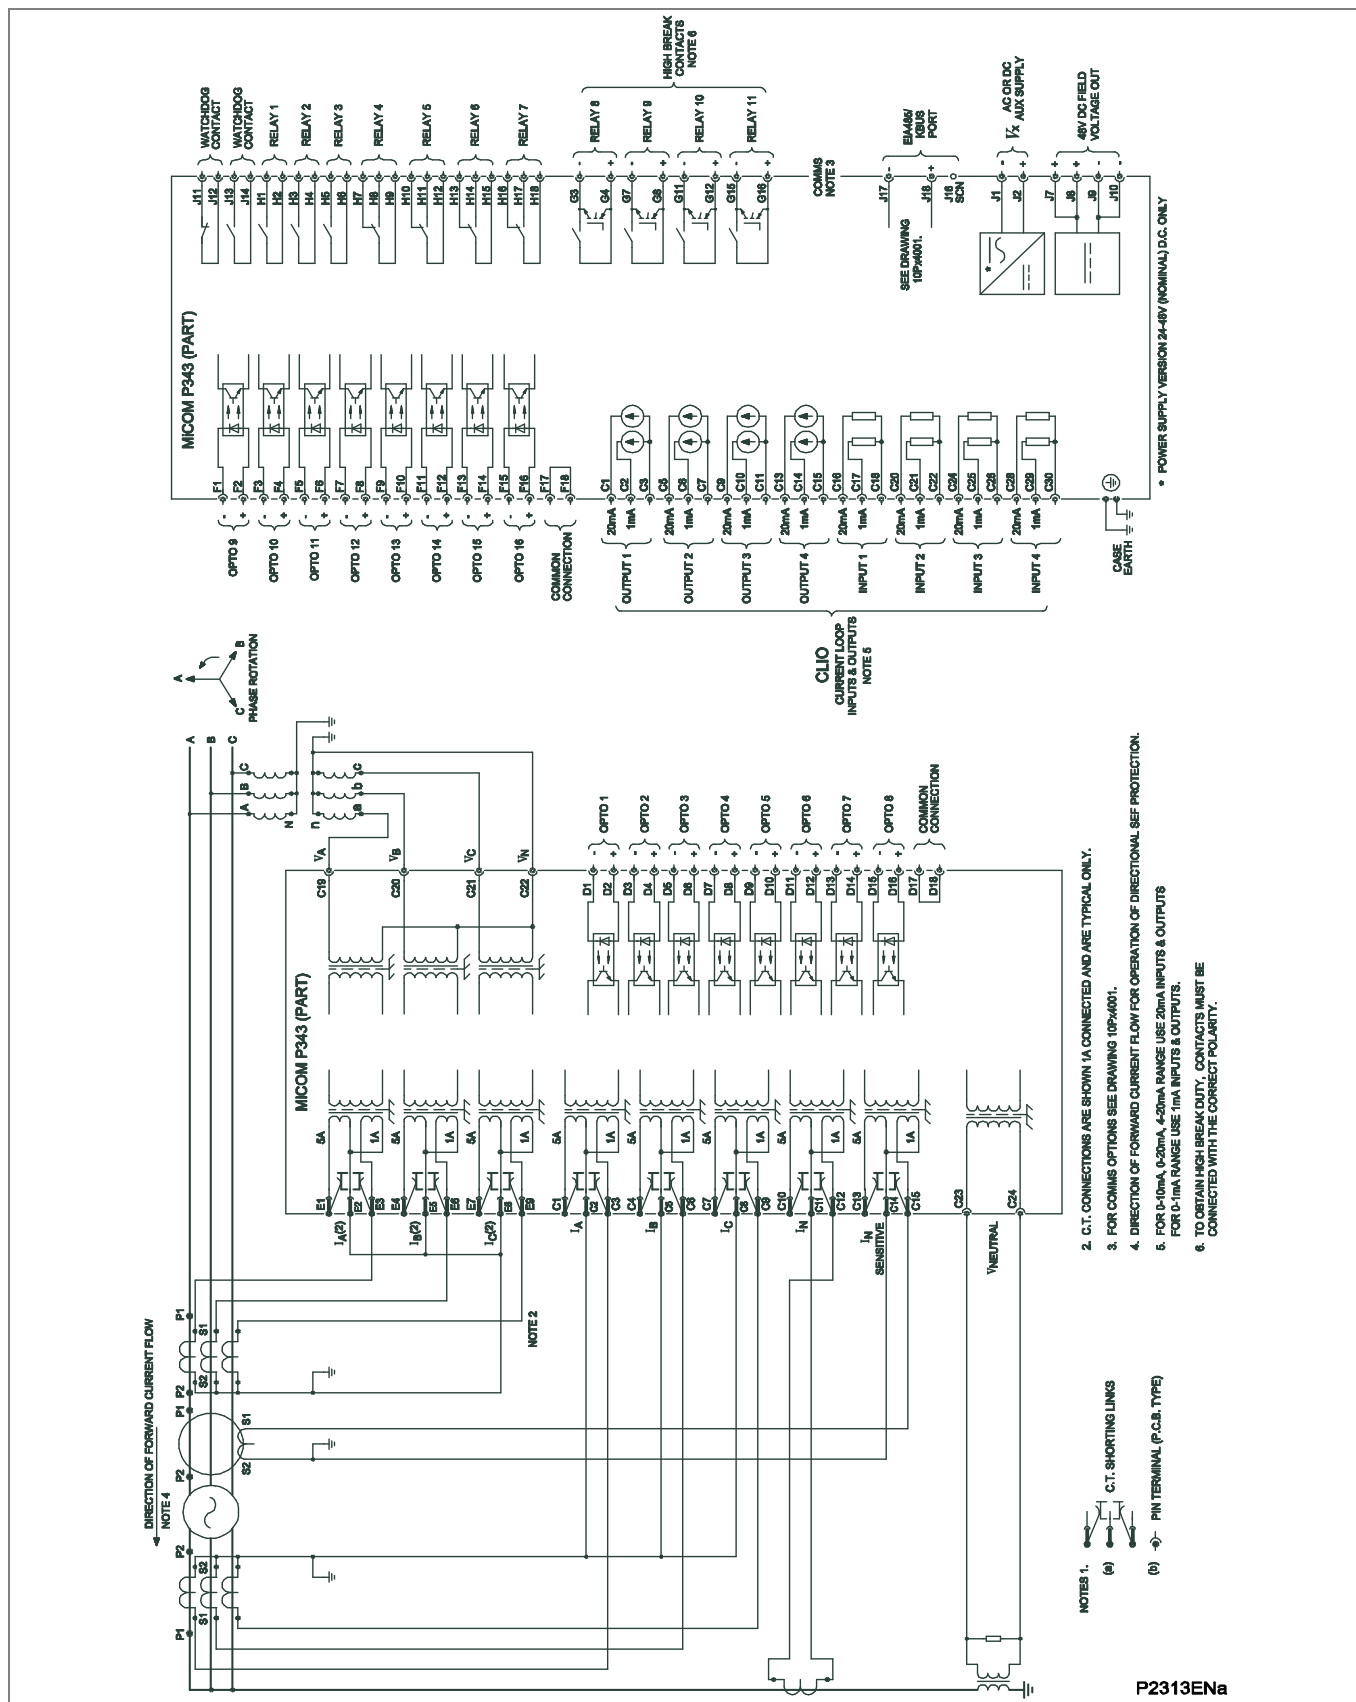

Figure 33 - P343 (60TE) with biased differential (16 I/P & 11 O/P (4HB) & CLIO)
- Figure 33 - P343 (60TE) with biased differential (16 I/P & 11 O/P (4HB) & CLIO)